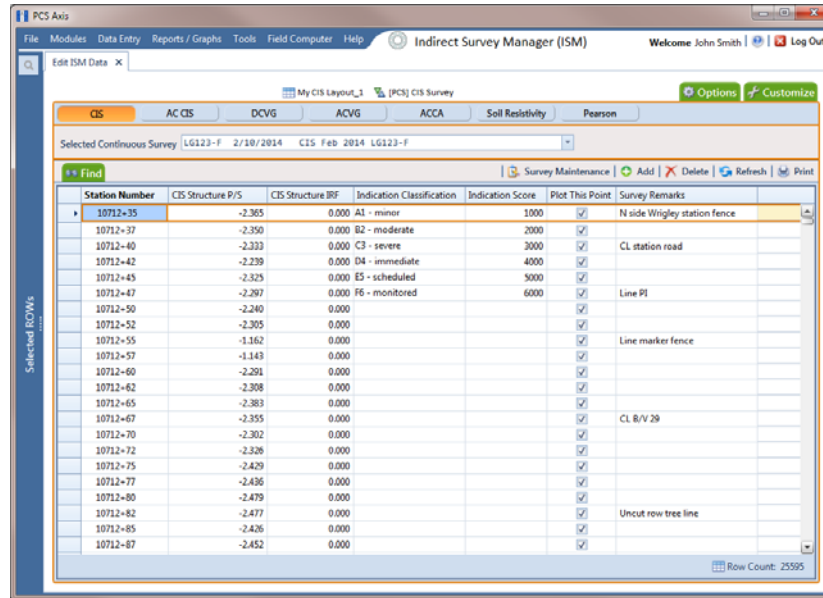

Figure 7-58. Edit ISM Data
- 4 Click a button labeled with the type of continuous survey data you want to work with, such as the **CIS** button (Figure 7-58, page 274).